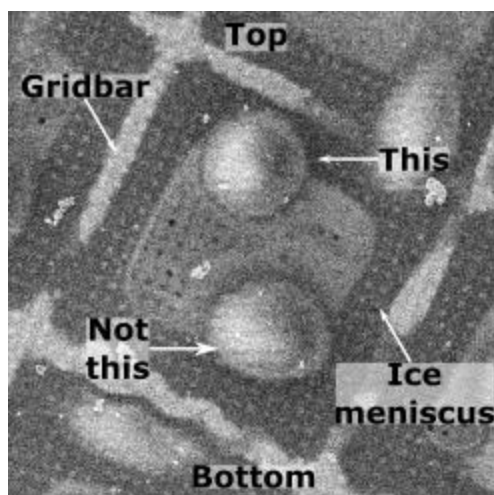

Figure 2 SEM image of a grid square highlighting the Top and Bottom, gridbars, the ice meniscus below the support film, and preferential positions for milling
- As best as you can, keep to the center *or* the top of the grid square. Avoid the bottom of the grid square (Figure 2)